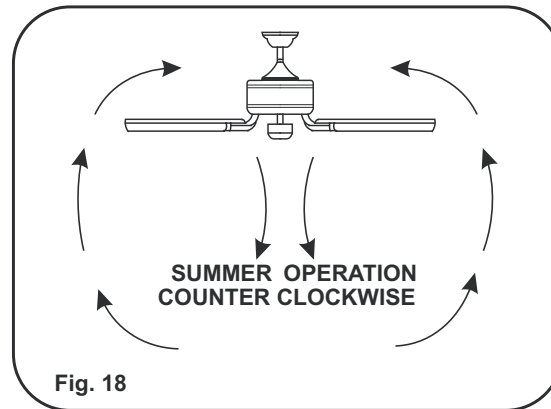

Fig. 18
Step 1. While holding the 17W LED assembly under your fan, firmly snap the wire connection plugs together. (Fig.18)
Step 2. Attach the 17W LED assembly to the switch box by twisting tightly. (Fig.18)
A **DOWNWARD** airflow creates a cooling effect as shown in Figure 18. This allows you to set your air conditioner on a warmer setting without affecting your comfort.